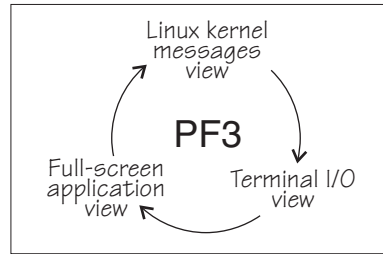

Figure 57. Switching views of the 3270 terminal device driver
Use function key 3 (PF3) to switch between the views (see Figure 57 on page 351).